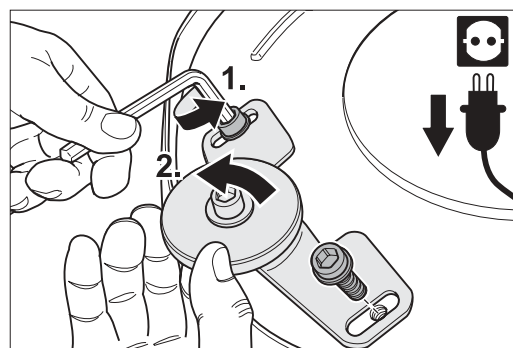

Fig. 28: Remove the screws on the wall-protecting wheel bracket and then remove the complete wall-protecting wheel.
- 3 Remove the two screws with which the wall-protecting wheel bracket is fastened to the attachment and then remove the complete wall-protecting wheel (Fig. 28).